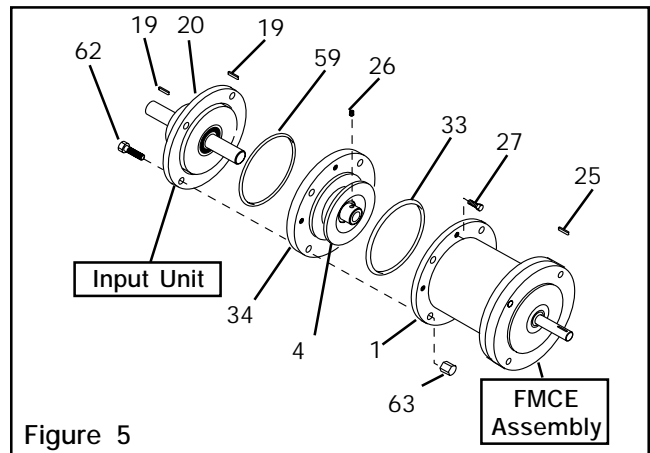

Figure 5
1. Remove the eight Hex. Head Cap Screws (Item 27); then, separate the Female Pilot (Item 34) and Drive Disc (Item 4) from the FMCE Assembly (See Figure 5).
2. Coat the O-ring Seal (Item 59) and the seal contact surface with a film of O-ring lubricant, then wipe off any excess lubricant (See Figure 5).
3. Place the O-ring Seal (Item 59) into the seal groove of the Input Unit Bearing Flange (Item 20) (See Figure 5).
4. Slide the Female Pilot (Item 34) and Drive Disc (Item 4) onto the Input Unit shaft (See Figure 5).
5. Tighten the Set Screw (Item 26) to lock the Drive Disc (Item 4) onto the motor shaft (See Figure 5).
6. Coat the O-ring Seal (Item 33) and the seal contact surface with a film of O-ring lubricant, then wipe off any excess lubricant (See Figure 5).
7. Place O-ring Seal (Item 33) onto the seal diameter of the Female Pilot (Item 34) (See Figure 5).
8. Slide FMCE Assembly onto the Female Pilot (Item 34) and the Drive Disc (Item 4) (See Figure 5).
9. Using four Nexen supplied 0.375-16 x 1.75" Hex. Head Cap Screws (Item 62) and Acorn Nuts (Item 63), secure the Female Pilot, Drive Disc, and FMCE Assembly to the Input Unit (Item 20) (See Figure 5).
11. Using eight Nexen supplied 10-24 x 0.75" Hex. Head Caps Screws (Item 27), secure the FMCE Assembly to the Female Pilot and Drive Disc (See Figure 5).